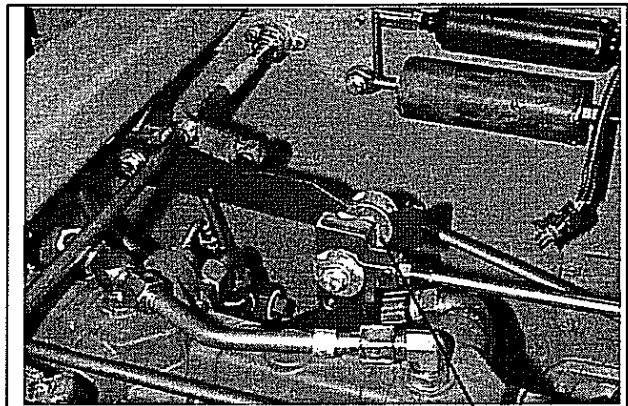

Fig 4.3.2a
4. With the steering levers in neutral position, adjust the LH pivot assembly so the "V" is lined up on the pintle lever (Fig 4.3.2a).